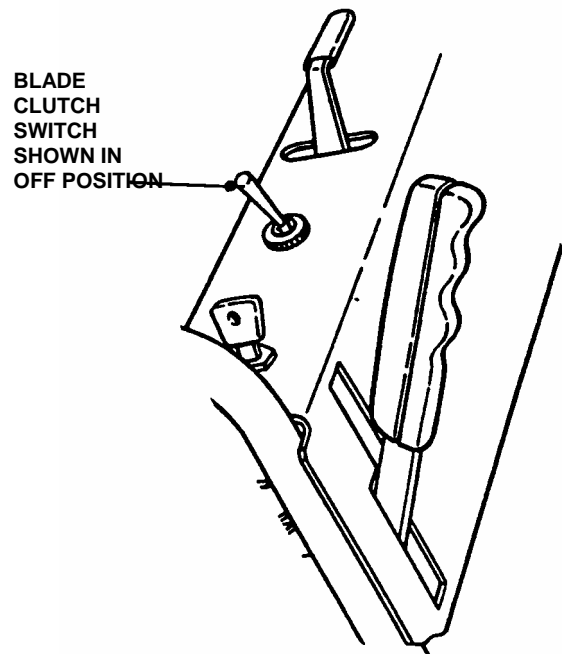

FIGURE 3.4
4. Pull Blade Clutch Switch rearward to the **OFF** position. See Figure 3.4.